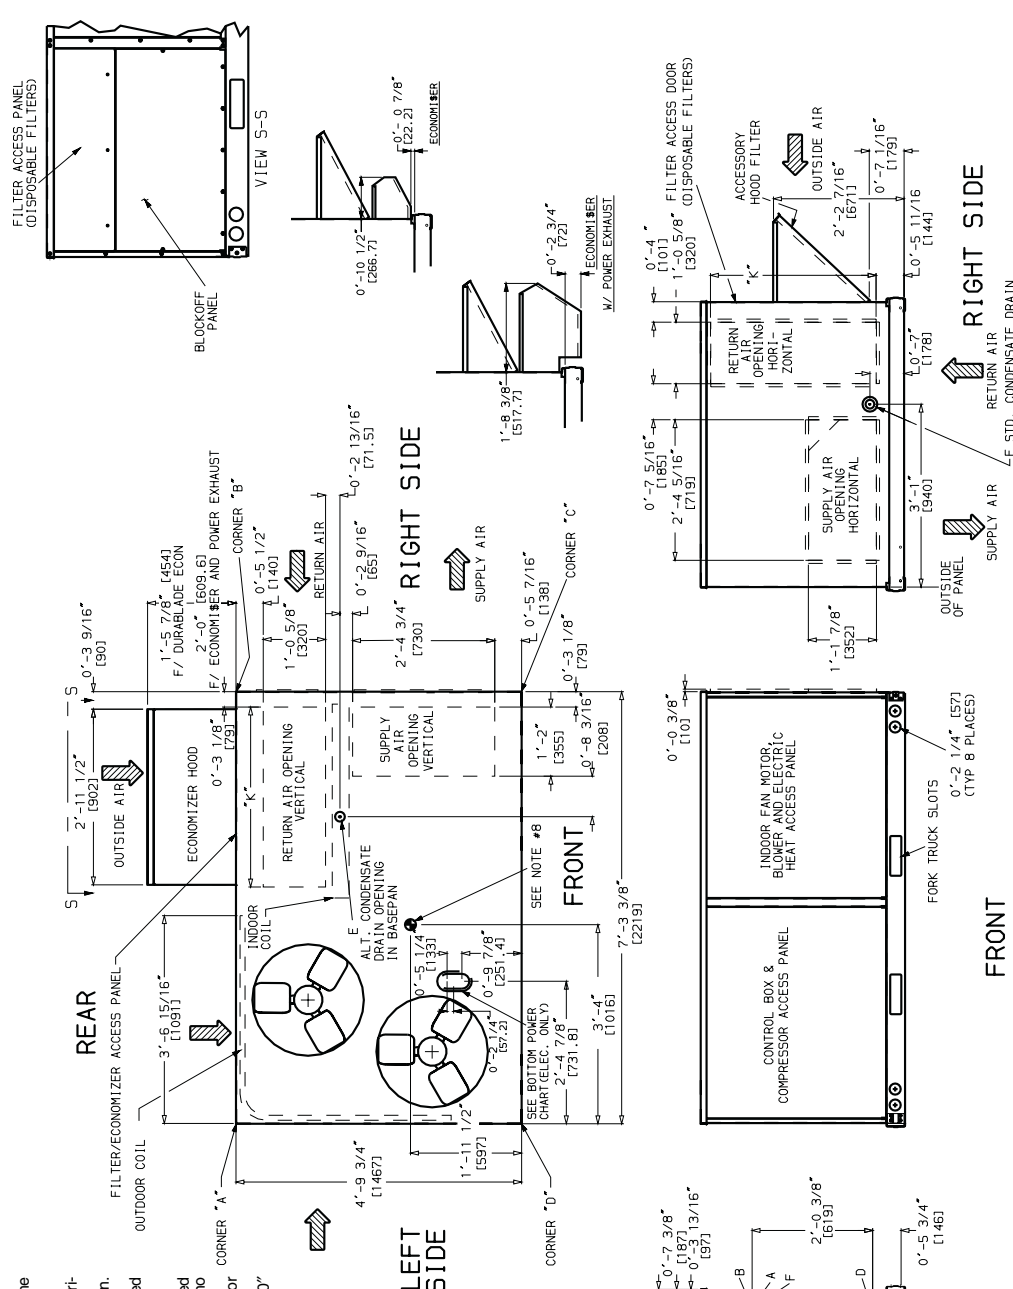

Fig. 6 — Base Unit Dimensions
Maintain clearance around and above unit to provide proper airflow and service access. See Fig. 6.
4. If thru-the-bottom control connections are used, refer to the accessory installation instructions for information on control wiring. Refer to Fig. 6 for drilling holes in basepan.